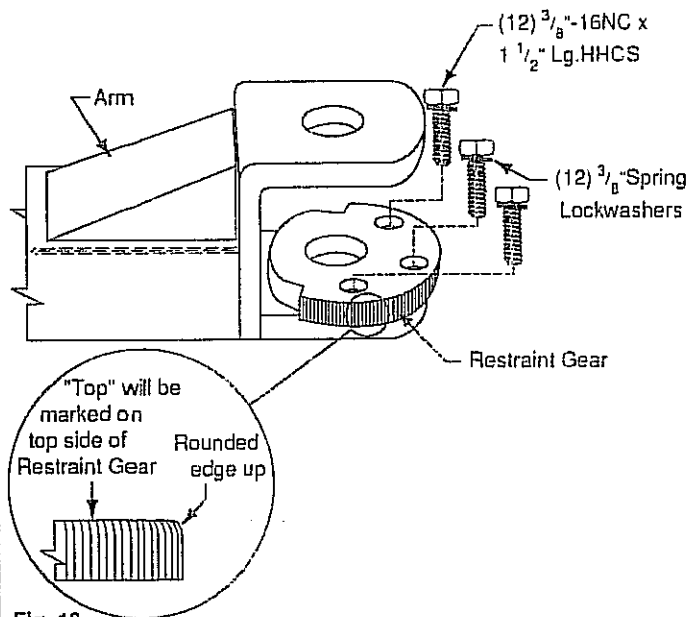

Fig. 18
Before installing arms, install arm Restraint Gears as follows. Install Restraint Gear into arm clevis, as shown in Fig. 18, so that the rounded edge (top side) of the gear teeth is facing upward. Then, install the three (3)  $\frac{3}{8}$ "-16NC x  $1\frac{1}{2}$ " Lg. HHCS (12 total for all 4 arms) and  $\frac{3}{8}$ " Spring Lockwashers into the gear and arm as illustrated Fig. 18, but do not tighten. Front arm gears are shown, rear arm gears install the same.